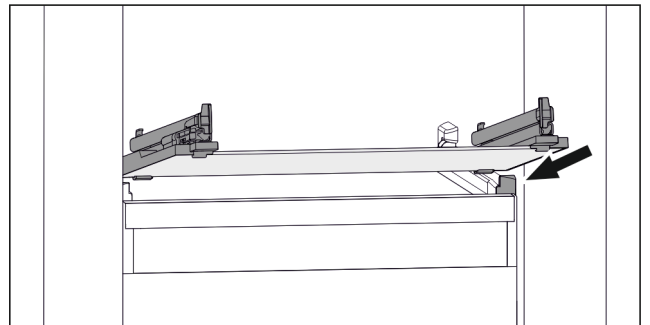

Fig. 74 Example illustration of glass shelf
- ▶ Position glass shelf at an angle behind the stoppers. (see Fig. 74)